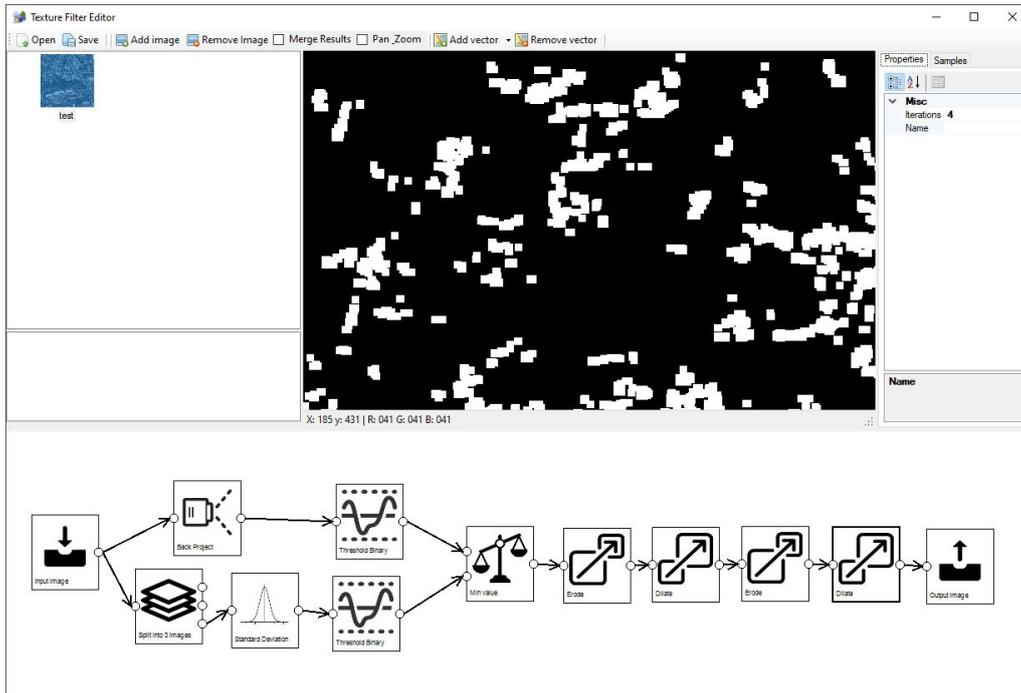

Figure 6.24: Dilating again to grow the detected areas
11. Dilate step with 4 iterations to grow the detected vegetation back (again) to the normal size, see Figure 6.24.